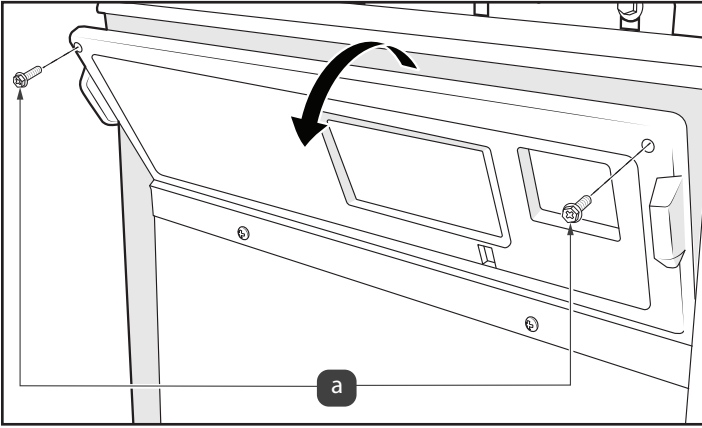

Figure 3. Remove Pentair Control Panel Screws
- Remove the top two screws on Pentair control panel, swing panel down to allow access to wiring behind it, see Figure 3(a).